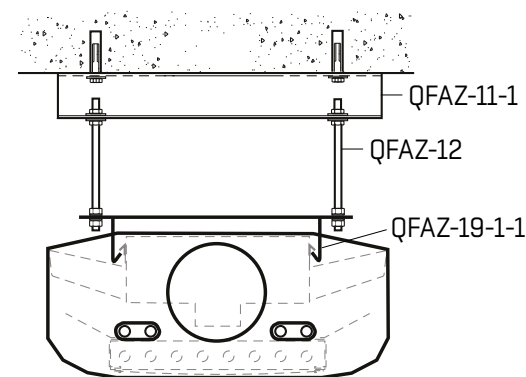

FIGURE 13
- 2) Next, snap the NOVA II IQFI into the low-build fastening brackets. (See **FIGURE 13**)